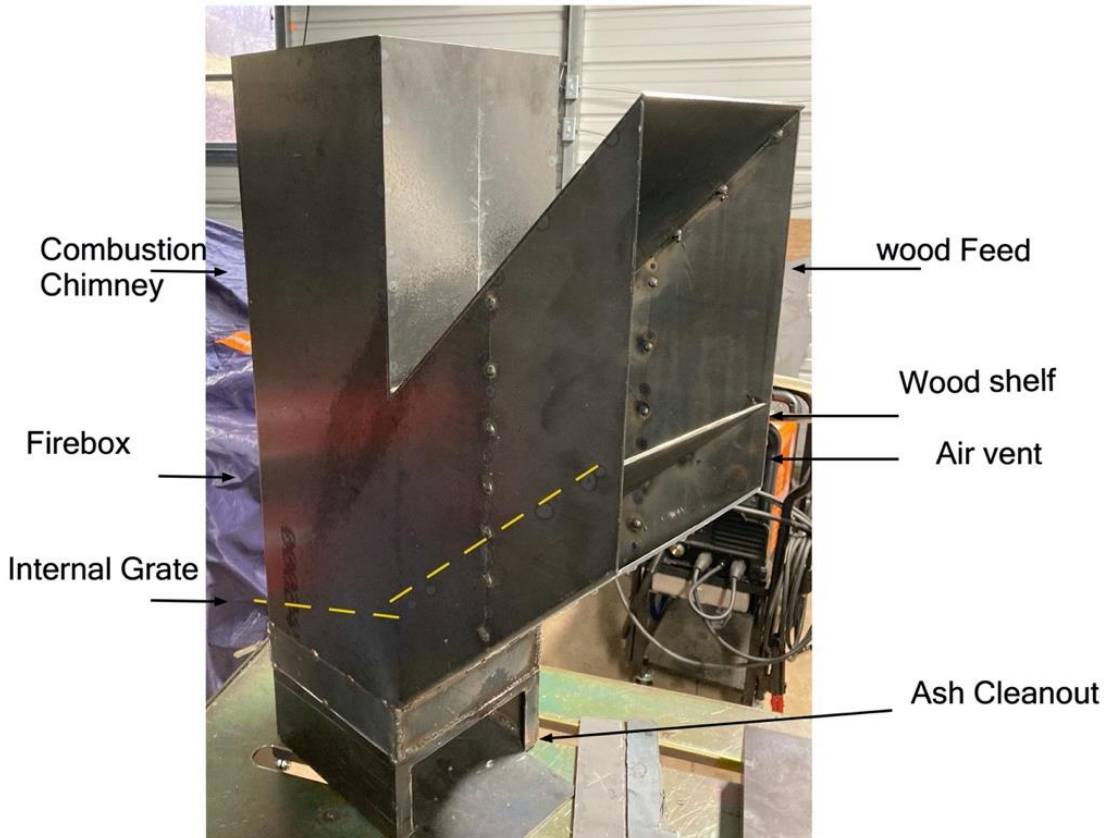

Figure 1 - Internal components of a Rocket Sap Evaporator. (Photo credit: Future Generations University)
The internal components of a rocket stove are the firebox and an insulated chimney. Figure 1 shows the combustion chimney in this Rocket Sap Evaporator (RSE) design. This chimney will be wrapped in rock wool insulation to keep the heat in and ensure complete combustion. It is then set in a 55-gallon steel barrel.
2. Trace all template pieces (EXCEPT the flame spreader) on to the 1/8" sheet steel (see Figure 1). Be sure to label your pieces. Proceed to Step 4.
3. Measure and draw patterns directly on to the 1/8" sheet steel (see Figure 1). Be sure to label your pieces. Proceed to Step 4.